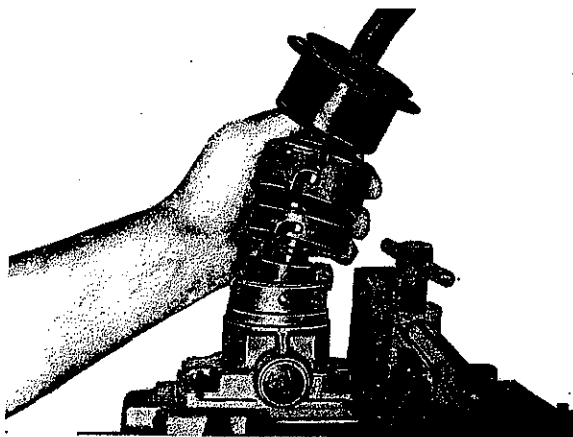

Fig. 1
Remove bellows. Loosen cap and holding ring. Pull shift lever completely out of shift head (626) (Fig. 1). Loosen nuts (102) and remove shift head. Remove washer (617).